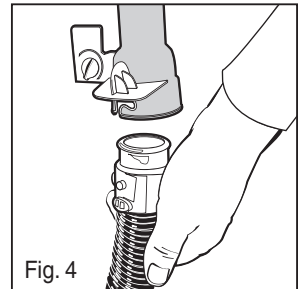

Fig. 4
- 4) Twist to separate tube from hose (Fig. 4).
- 6) Twist to separate tube from hose (Fig. 4).
- 1) Re-attach both tubes to hoses (Fig. 4).